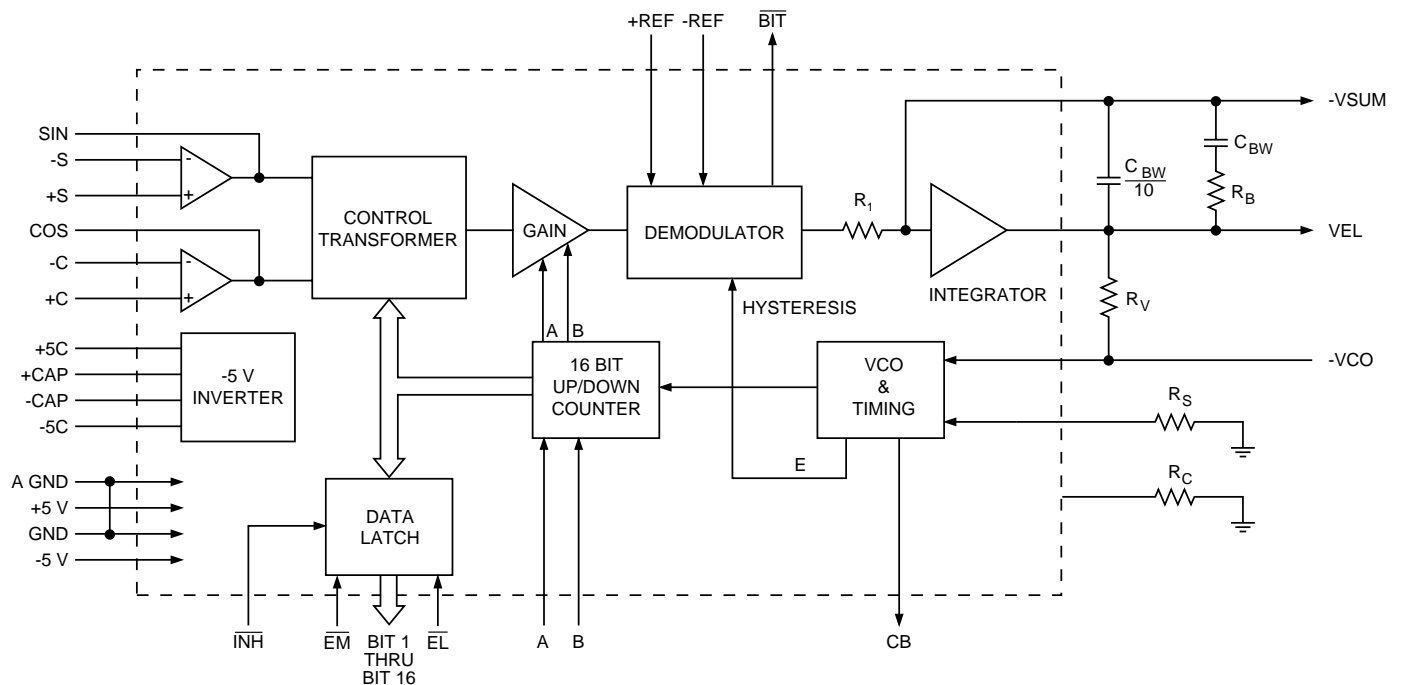

FIGURE 1. RDC-19220 SERIES BLOCK DIAGRAM
FIGURE 1 is the functional block diagram of the RDC-19220 Series. The converter operates with  $\pm 5$  Vdc power supplies. Analog signals are referenced to analog ground, which is at ground potential. The converter is made up of two main sections; a converter and a digital interface. The converter front-end consists of sine and cosine differential input amplifiers. These inputs are protected to  $\pm 25$  V with  $2\text{ k}\Omega$  resistors and diode clamps to the  $\pm 5$  Vdc supplies. These amplifiers feed the high accuracy Control Transformer (CT). Its other input is the 16-bit digital angle  $\phi$ . Its output is an analog error angle, or difference angle, between the two inputs. The CT performs the ratiometric trigonometric computation of  $\text{SIN}\theta\text{COS}\phi - \text{COS}\theta\text{SIN}\phi = \text{SIN}(\theta-\phi)$  using amplifiers, switches, logic and capacitors in precision ratios. **Note:** The transfer function of the CT is normally trigonometric, but in LDVT-mode the transfer function is triangular (linear) and could thereby convert any linear transducer output.